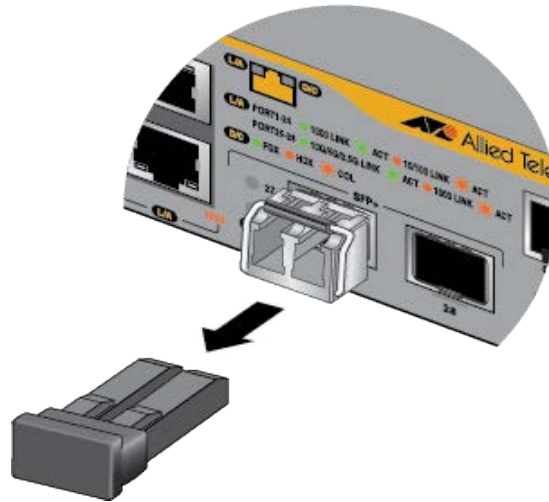

Figure 78. Removing the Dust Cover from an SFP+ Transceiver
5. Remove the dust cover from the transceiver, as shown in Figure 78 on page 153.